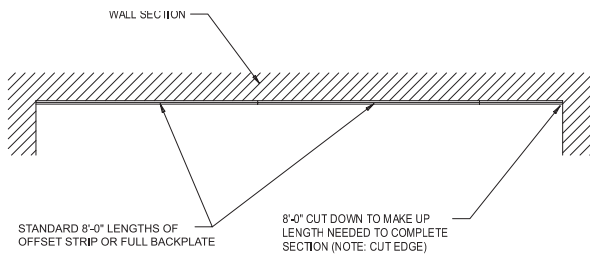

FIGURE S-1
- (1b) Cut the offset channel or full height backplate to the length needed. The channel and backplate are furnished in lengths of 4'-0" or 8'-0". Combine multiple lengths if needed to complete the distance. When joining two pieces, make sure that the cut end is at the end of the run. (FIGURE S-1)